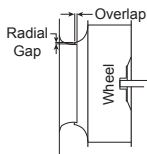

Figure 5
6. Rotate the wheel by hand to ensure that it does not rub and rotates freely. Refer to Figure 5 and chart for proper overlap and radial gap dimensions.